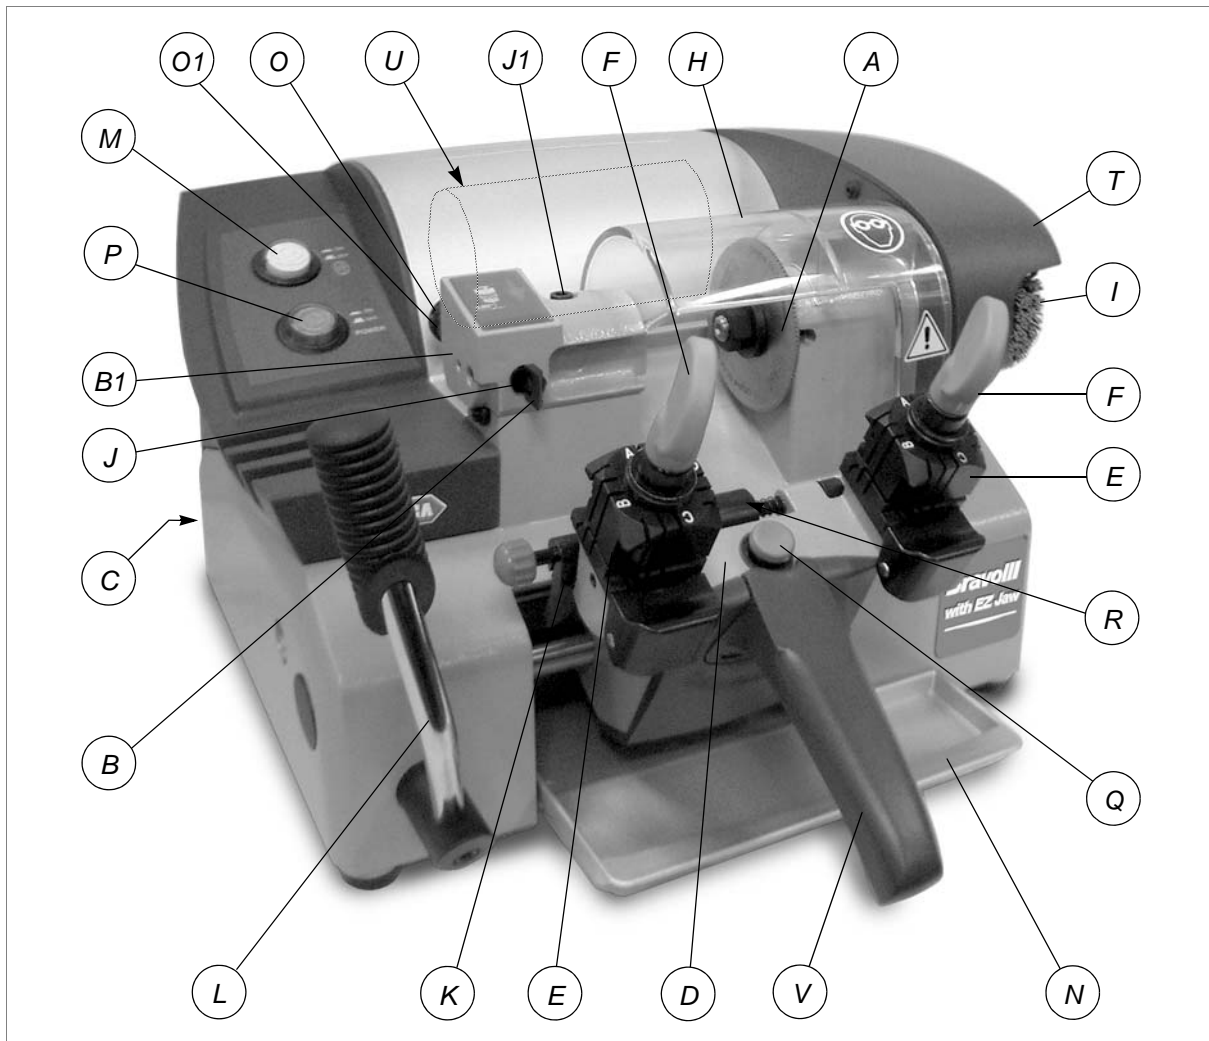

Fig. 5
The control panel with 2 controls is located on the left-hand side of the BRAVO III with EZ-Jaw key-cutting machine: the start-up switch for the motor (P) and the push button for the brush (M) (fig. 5, page 6).